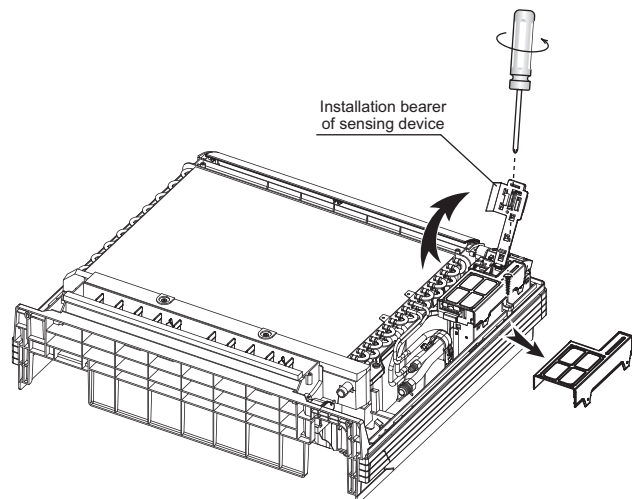

Fig.8-1
- The installation bearer of sensing device rotated to another side, and then takes off cover of electrical box. (Refer to Fig.8-1)
- Remove the electric box (1 screw). (Refer to Fig.8-1)